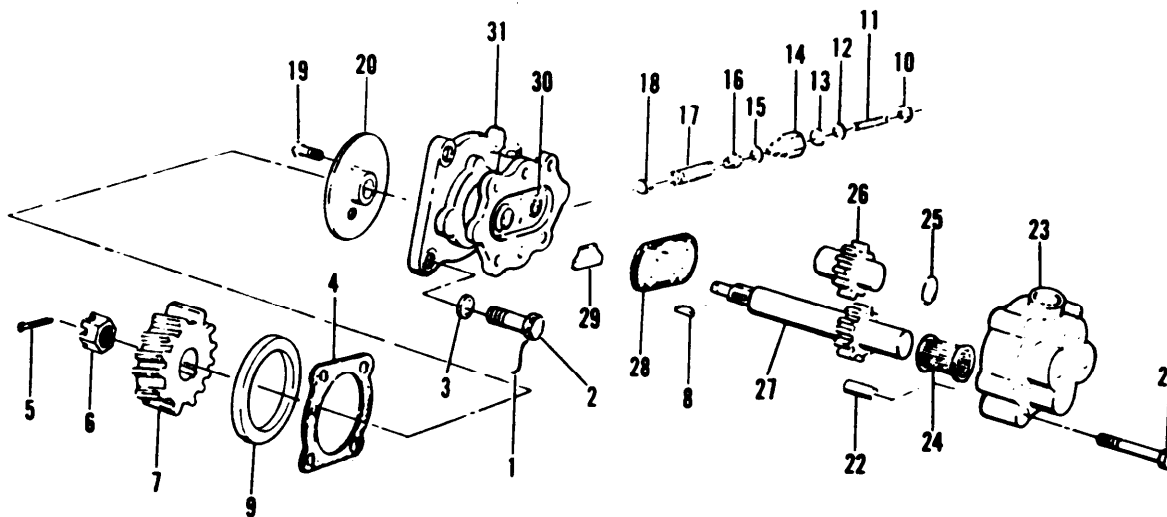

Figure 3-33. Hydraulic Pump Assembly, Exploded View
(1) Refer to the Operator and Organizational Maintenance Manual and drain the hydraulic sump.
(2) Remove hydraulic lines and fittings from hydraulic pump assembly.
(3) Remove lockwires (1, figure 3-33), screws (2) and flat washers (3) to remove hydraulic pump assembly and gasket (4). Discard gasket.
b. Disassembly. Disassemble hydraulic pump assembly (items 5 through 31) as required to clean, inspect and replace parts.
(1) Install hydraulic pump assembly on a suitable test stand and provide a means of rotating at approximately 600 RPM.
(2) Connect a hydraulic line to pump assembly inlet.
(3) Connect a hydraulic line equipped with a pressure gauge, and a restriction valve to the pump assembly outlet.
(4) Operate pump at approximately 600 RPM.
(5) Close restriction valve until pressure gauge reads $320 + 10$ PSI. If 320 ± 10 PSI is not obtainable, loosen locknut and adjust pressure relief valve screw until 320 ± 10 PSI is reached.
(6) Slowly close the restriction valve while observing the pressure gauge. The pressure should drop. If not, continue to adjust pressure relief valve screw until pressure does drop.
(7) Loosen locknut and adjust pressure set-screw (11, figure 3-33) until pressure gauge indicates 320 ± 10 psig.
(8) Tighten locknut and remove hydraulic pump assembly from test hookup.